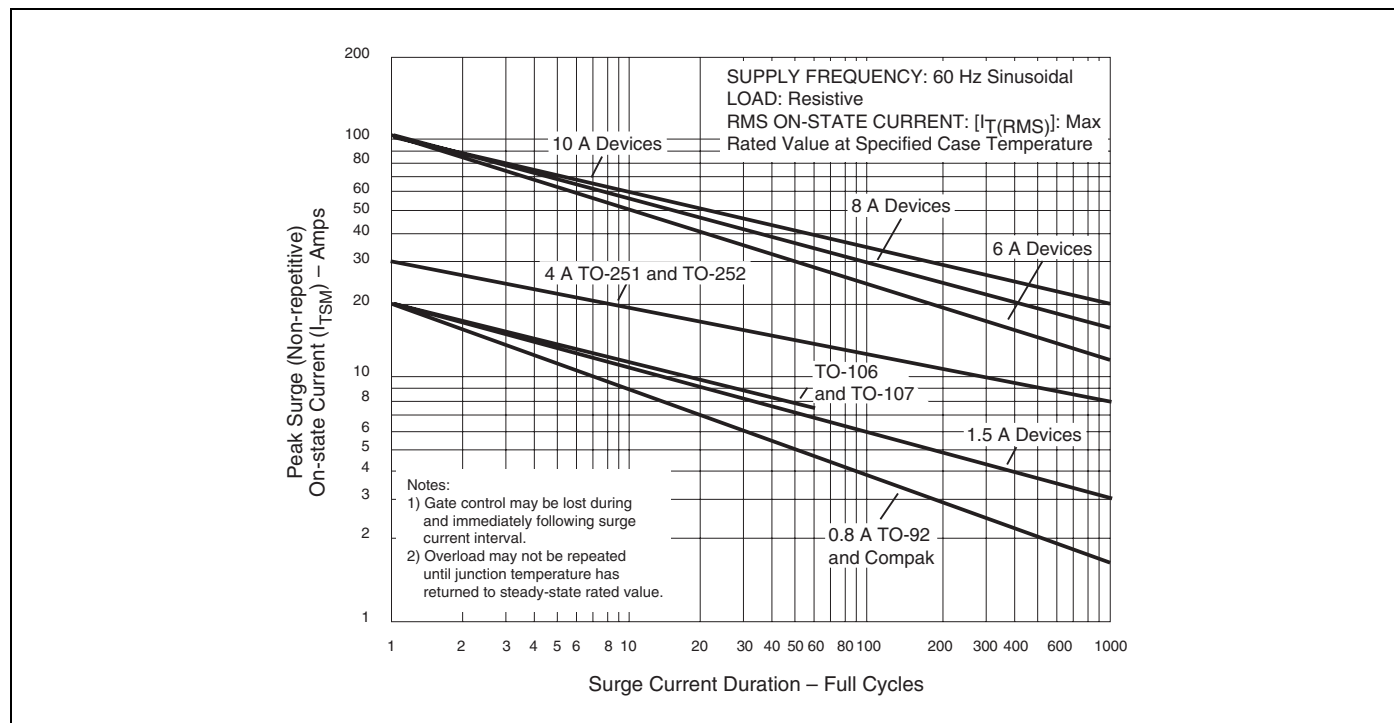

Figure E5.14 Peak Surge On-state Current versus Surge Current Duration
- (6) For more than one full cycle, see Figure E5.14.